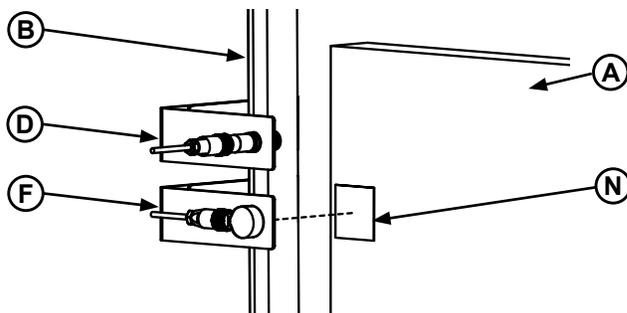

Figure 41
- Make sure there is a flat mounting surface for the reflective tape (**N**), on the door (**A**) in front of the sensor. See **Figure 41**.